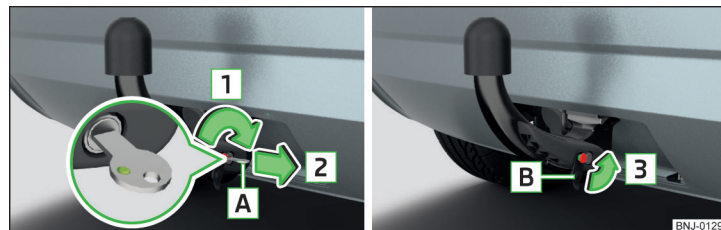

Fig. 135 Secure the lock and remove key / place cap on lock
- Turn the key **A** in the direction of arrow **1** so that the green marking points upwards » Fig. 135.